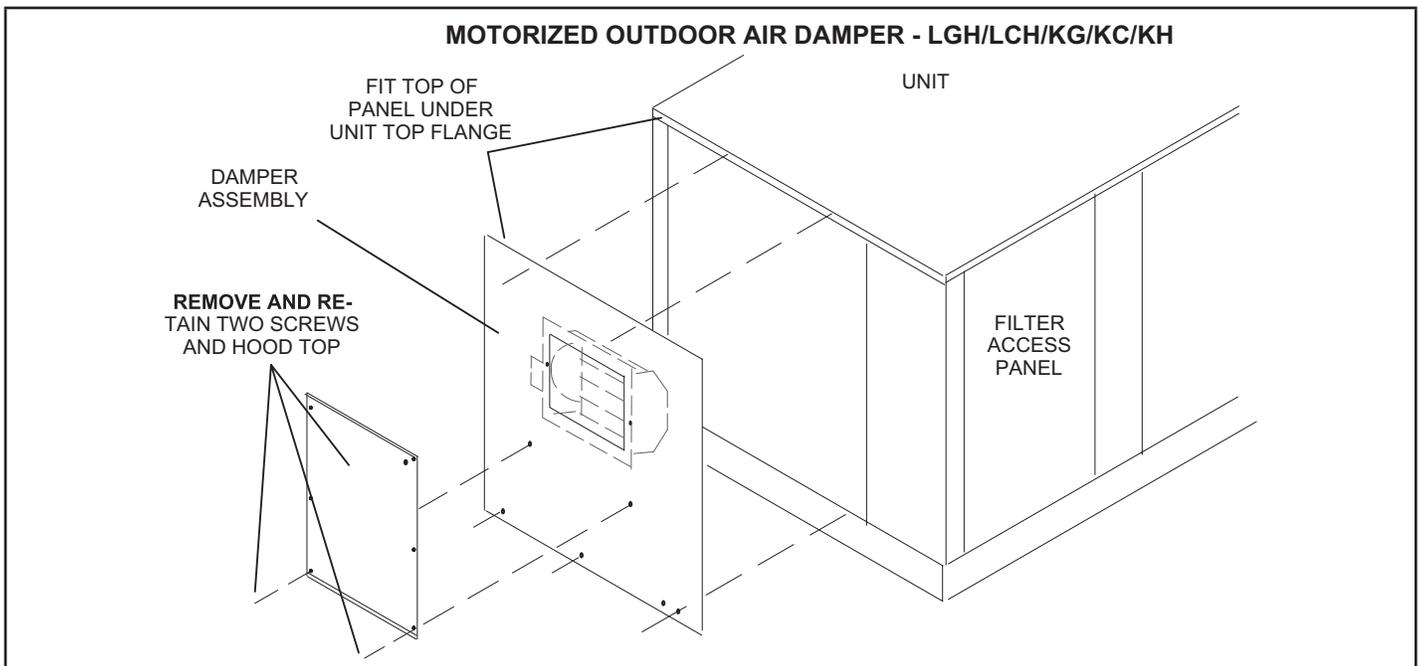
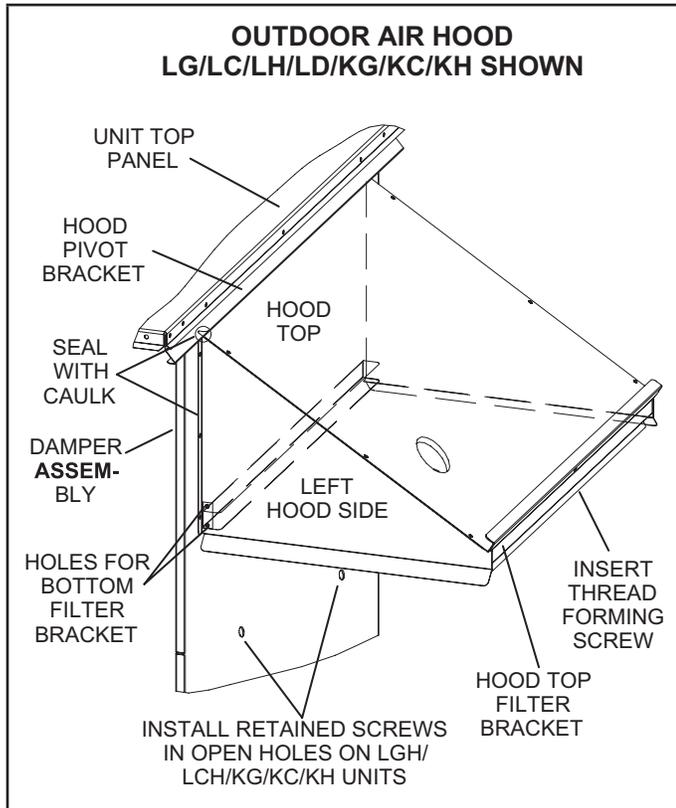
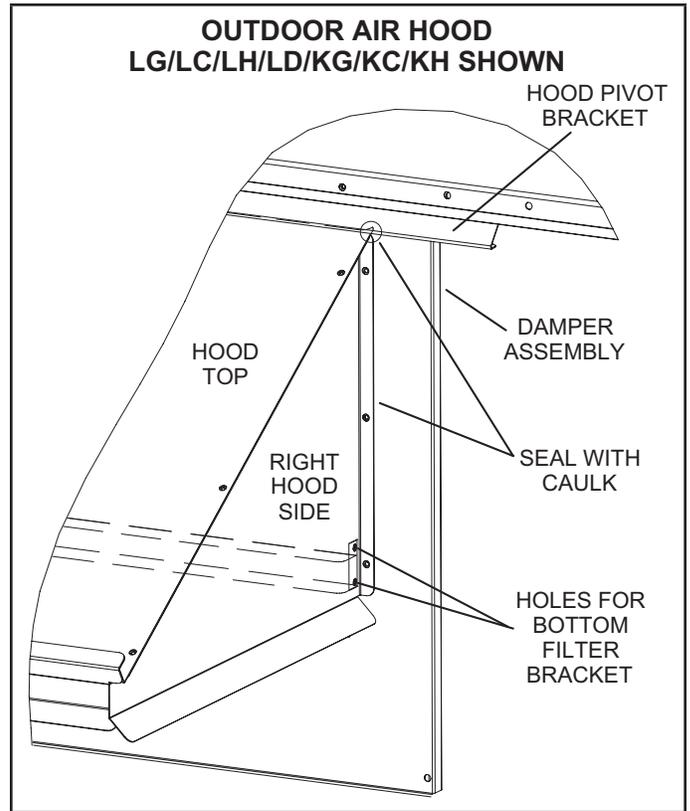

FIGURE 3
FIGURE 10
FIGURE 11
- 4 - Remove and retain two screws securing the hood top to the damper assembly (provided in kit). Remove hood top and retain. See FIGURE 3.
- 4 - Secure left hood side to the hood top and to the cabinet using the provided screws. See FIGURE 10.
- 5 - Secure the right hood side to the hood top. Do not secure the right hood side to cabinet. See FIGURE 11.
- 6 - Align the two holes on the left hood side with the two holes in the bottom filter bracket. Secure using provided screws. See FIGURE 10.
- 7 - Secure bottom filter bracket to the right hood side as shown in FIGURE 11.
- 8 - Secure right hood side to cabinet using provided screws. See FIGURE 11.
9 - Slide filter into the slot on the bottom filter bracket. Make sure arrows on filter match airflow direction. Secure the hood top filter bracket to the hood top using the thread forming screw provided. See FIGURE 10.
11 - Seal the locations shown in FIGURE 10 and FIGURE 11 with caulk.
Locate the two retained screws removed from the hood top in FIGURE 3. Install screws into the two open holes on the unit end panel below the assembled hood. See FIGURE 10.